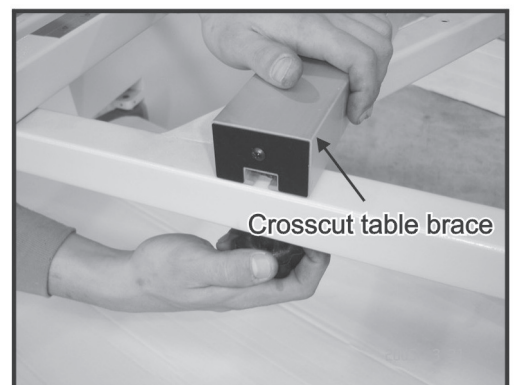

Fig. 17
4. Align the T-nuts in the crosscut table supporter with the holes in the crosscut table and thread the M8-1.25x50 knobs, with 8mm flat washers, into the T-nuts (Fig. 17)
(6) Crosscut fence